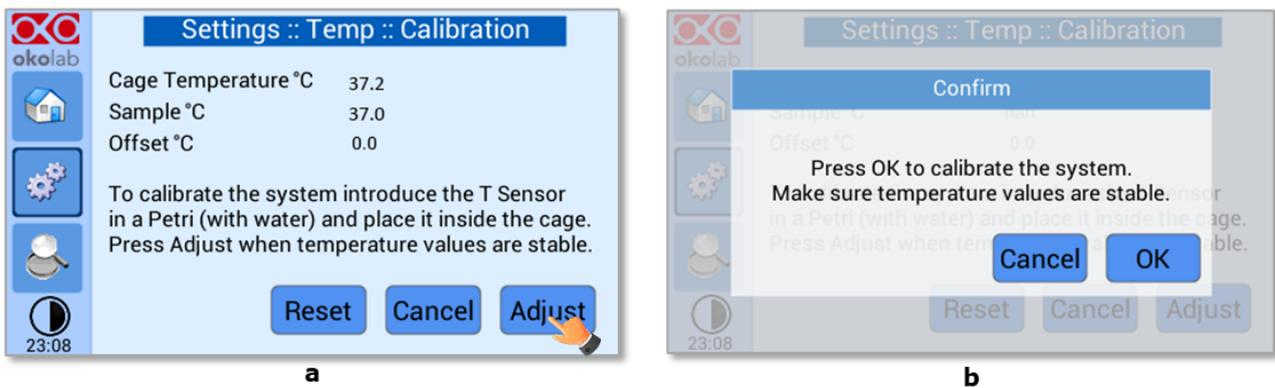

Figure 31. Cage calibration Adjust and Warning (a-b)
7. Press the *Adjust* button when the sample temperature is stable, as shown in Figure 31 a. The system will show the warning as in Figure 31 b, after pressing OK, the system will calculate the offset value to apply to the Cage Temperature to have the sample at the desired temperature.